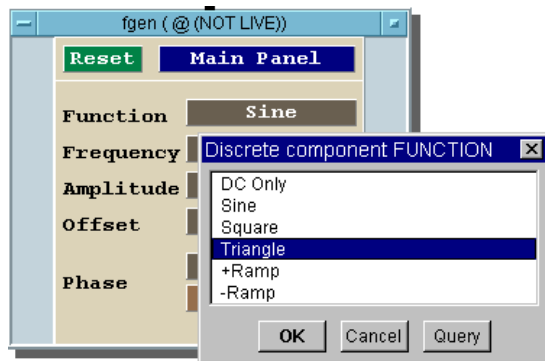

Figure 89 The Function Pop-up Menu on fgen
- 5 Click **Sine** in the Function field to get a pop-up menu, and then select Triangle as shown in Figure 89.